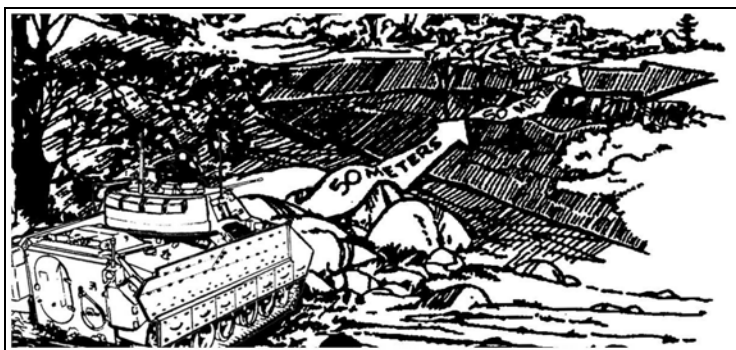

Figure 6-4. Slow (50-meter) scan.
(2) **Slow (50-Meter) Scan.** In a defensive position or during a short halt, if crew and squad members detect no targets during a rapid scan, they conduct a slow scan. They scan more deliberately, using their vehicle optics (day, thermal, or FLIR mode) or their binoculars (Figure 6-4).